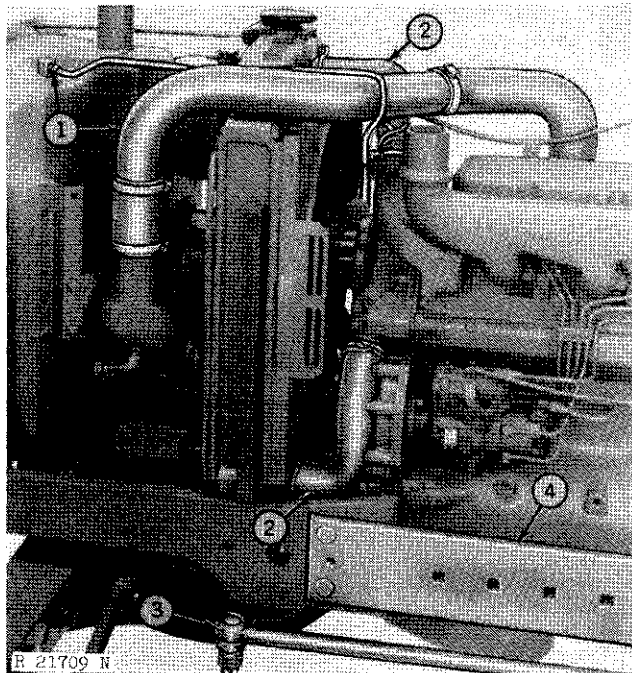

Fig. 7-Left-Hand Removal Procedures
1. Remove the air intake pipe (Fig. 7) and leak-off pipe.